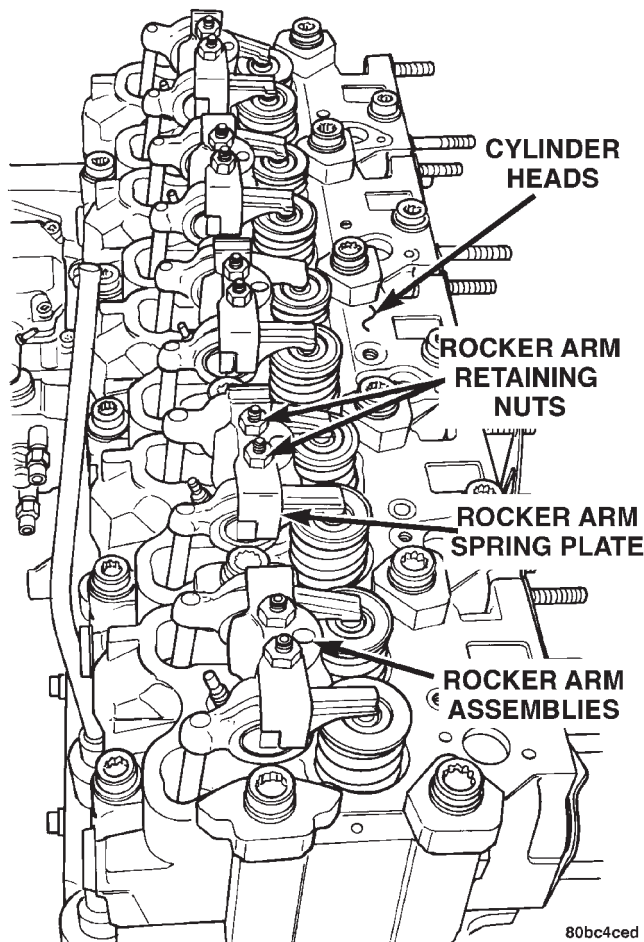

Fig. 64 *Rocker Arm Assemblies*
- (29) Remove the rocker retaining nuts (Fig. 63) (Fig. 64).
- (30) Remove the rocker arm assemblies. Place them on a bench in the same order as removed.